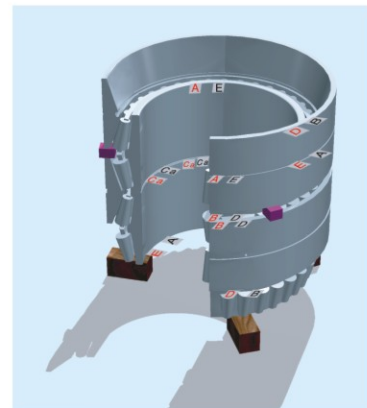

Fig 9-3
**Step 2: Width of the outer spacers D and B** (Fig. 9-3)